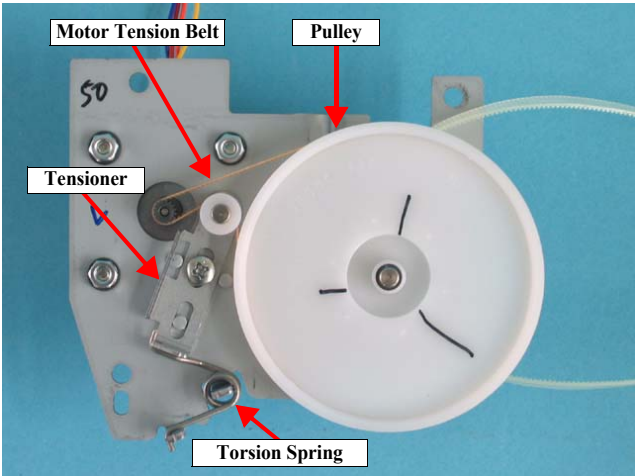

Figure 5-1. Tension Adjustment
2. Install the Torsion Spring as shown in Figure 5-1 to secure the Tensioner under tension.